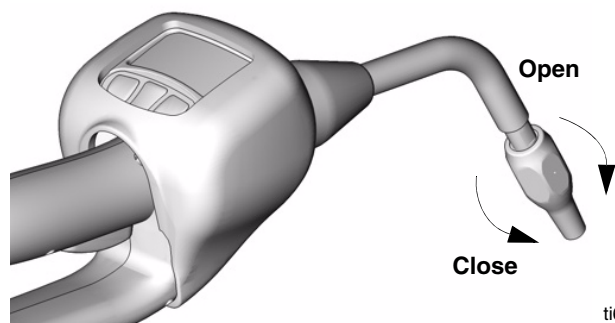

FIG. 21
1. To close the nozzle to prevent dripping, rotate left (counter clockwise) until tight. See FIG. 21.
Quick close nozzle is closed.	Open nozzle, see FIG. 21 on page 15.